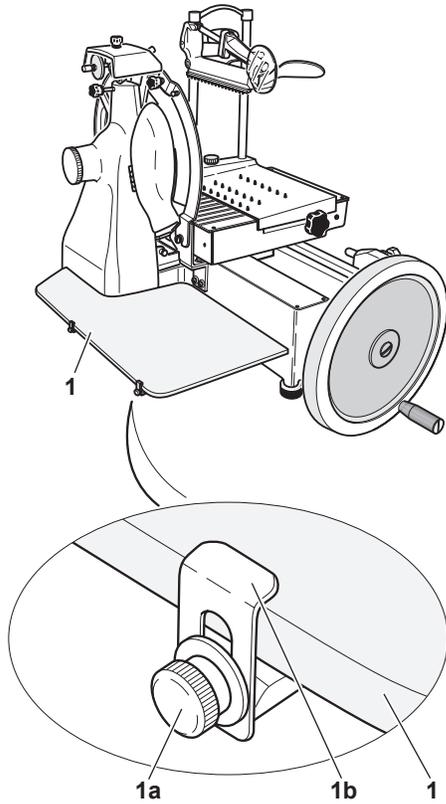

Figure 18-1
4. Install the slice receiving tray (1). Tighten two screws (1a) that fasten the slice receiving tray (1) to the retaining clips (1b). (Figure 18-1).